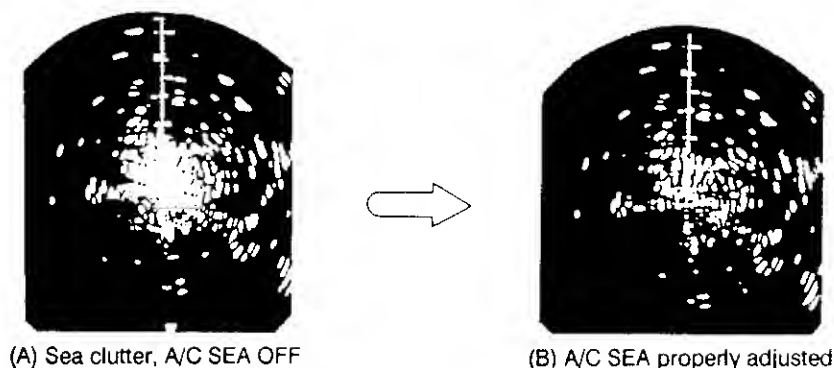

Figure 2-6 Adjusting the A/C SEA Control
Echoes from waves can be troublesome, covering the central part of the display with random signals known as "sea clutter." The higher the waves, and the higher the scanner above the water, the further the clutter will extend. Sea clutter appears on the screen as many small echoes which might affect radar performance (see Figure 2-6 (A)). The **A/C SEA** control reduces the amplification of echoes at short ranges (where clutter is the greatest) and to progressively increase amplification as the range increases, so amplification will be normal at those ranges where there is no sea clutter. The control is effective up to about 4 miles.
If the control is not sufficiently advanced, other targets will be hidden in the clutter, while if it is set too high, sea clutter and targets will both disappear from the screen. In most cases turn the control clockwise until clutter has disappeared to leeward, but a little is still visible windward. Figure 2-6 illustrates how to adjust the control.